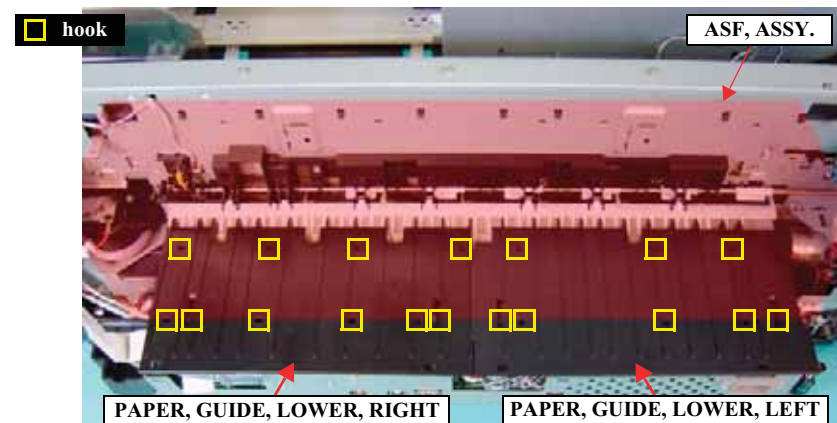

Figure 4-26. Removing the PAPER, GUIDE, LOWER, LEFT/RIGHT
8. Pull the PAPER, GUIDE, LOWER, LEFT first rearward and then upward to release it from the eight hooks, and pull out the PAPER, GUIDE, LOWER, LEFT from the back of the printer. *See Figure 4-26.*
9. Pull the PAPER, GUIDE, LOWER, RIGHT first rearward and then upward to release it from the 10 hooks, and pull out the PAPER, GUIDE, LOWER, RIGHT from the back of the printer. *See Figure 4-26.*
The ASF, ASSY. is temporally removed in *Figure 4-26* to show the positions of the hooks on the PAPER, GUIDE, LOWER, LEFT/RIGHT. Note that the ASF, ASSY. is installed on the main unit during the actual maintenance work.